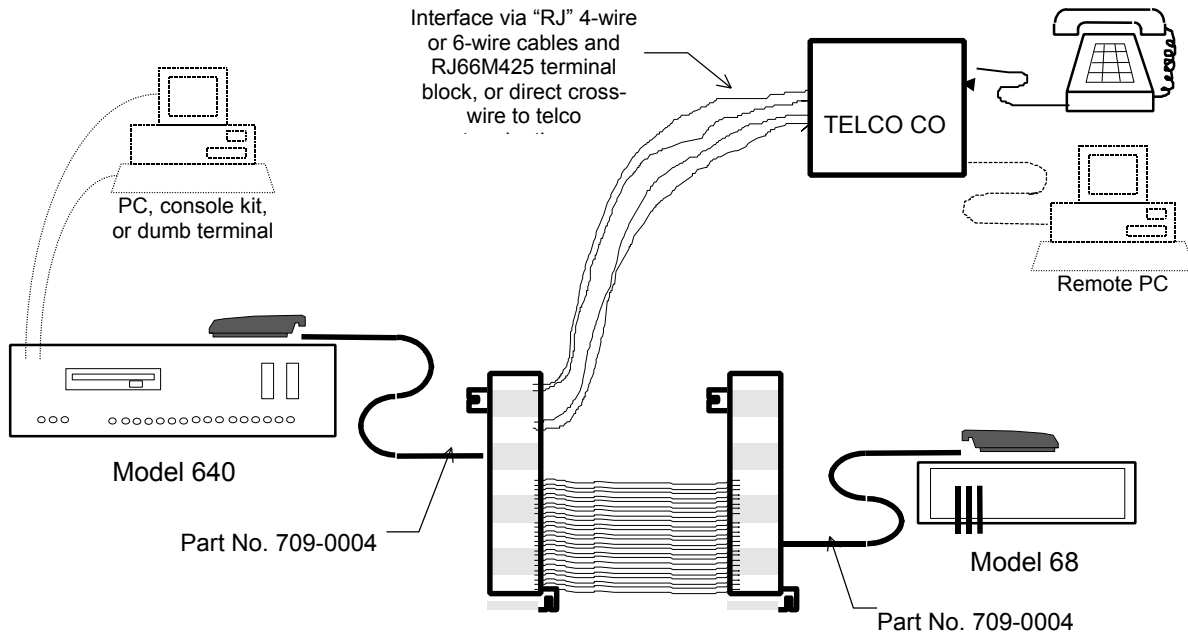

Figure 48. Model 640 to Model 68 Punchdown Block Interface
The punchdown block interface is more complicated, but also more flexible. Figure 48 illustrates the basic connections for this method of installation.
Notes on Figure 48:
1. The cross-wiring between the two punchdown blocks is not as straight-forward as Figure 48 may suggest. Wiring is dependent on the telco line types and the system application.